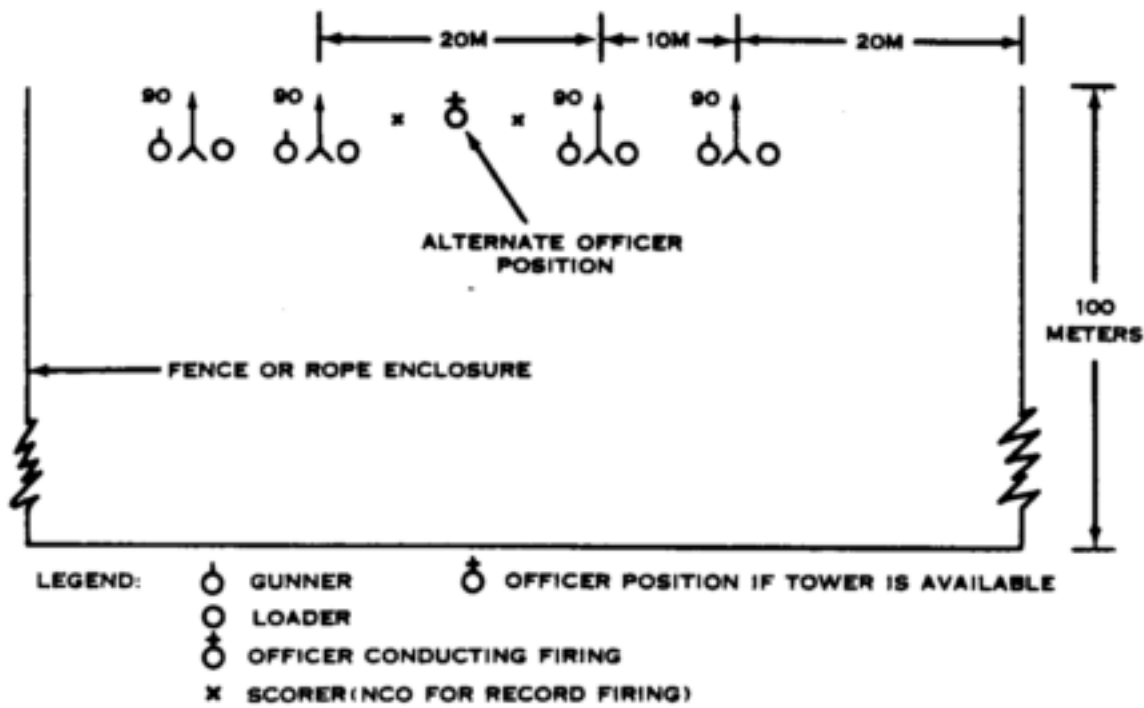

Figure 31. Range organization.
a. See figure 31 for organization of the firing line.